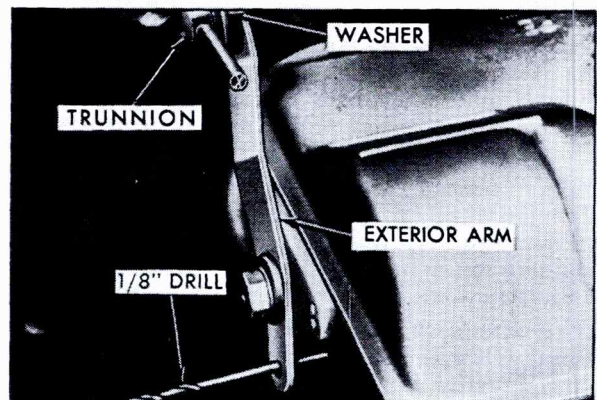

Fig. 15-13 Accelerator Linkage Adjustment
4. Insert 1/8" drill into hole of exterior arm and power unit housing to check alignment, Fig. 15-13.